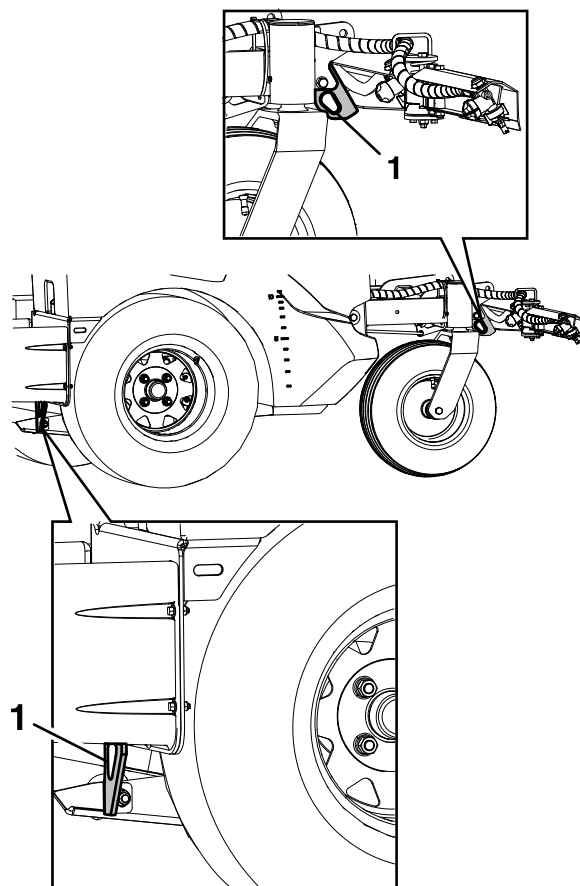

Figure 41
- Securely fasten the machine to the trailer or truck with straps, chains, cable, or ropes. When securing the front of the machine, only use the tie down locations shown in Figure 41. If possible, both front and rear straps should be directed down and outward from the machine. Using non-designated locations may cause damage to the machine and/or attachment.